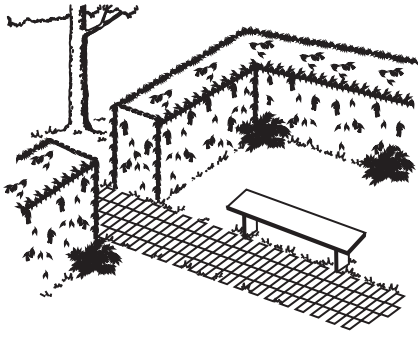

Fig. 5
- To trim the sides of the hedge, hold the hedge trimmer at the bottom and sweep upward. Trim the sides of the hedge so that they will be slightly narrower at the top (Fig. 5).